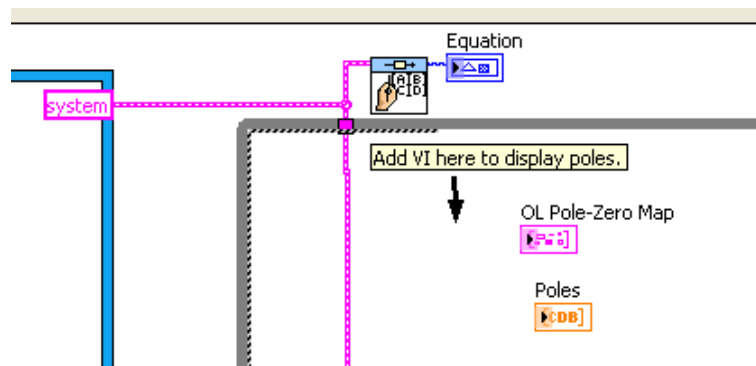

Figure 2.6: Complete block diagram to display poles.
- Complete the block diagram shown in Figure 2.6 to display the open-loop poles of the system in the *OL Pole-Zero Map* and *Poles* indicators (using the state-space model). Look through the *Control Design* palette and then run the VI to display the poles.